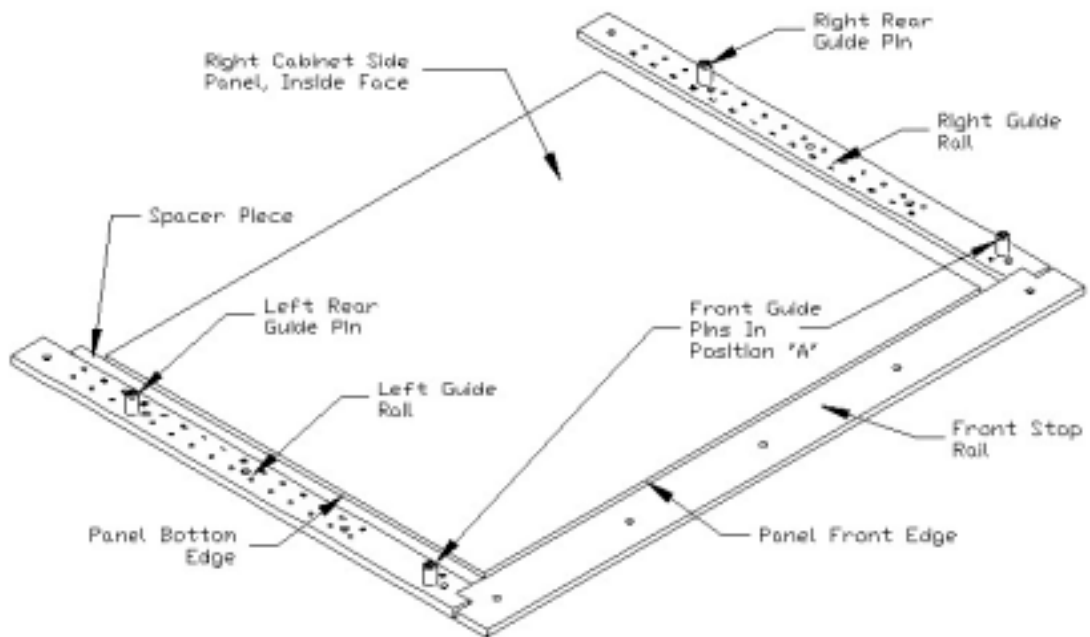

Figure 32
1. To bore the holes in the "right" cabinet side panel (work-piece) place the bottom edge of the work-piece against the "left" guide-rail and the front (edge banded) edge against the front stop-rail as shown in Figure 32.